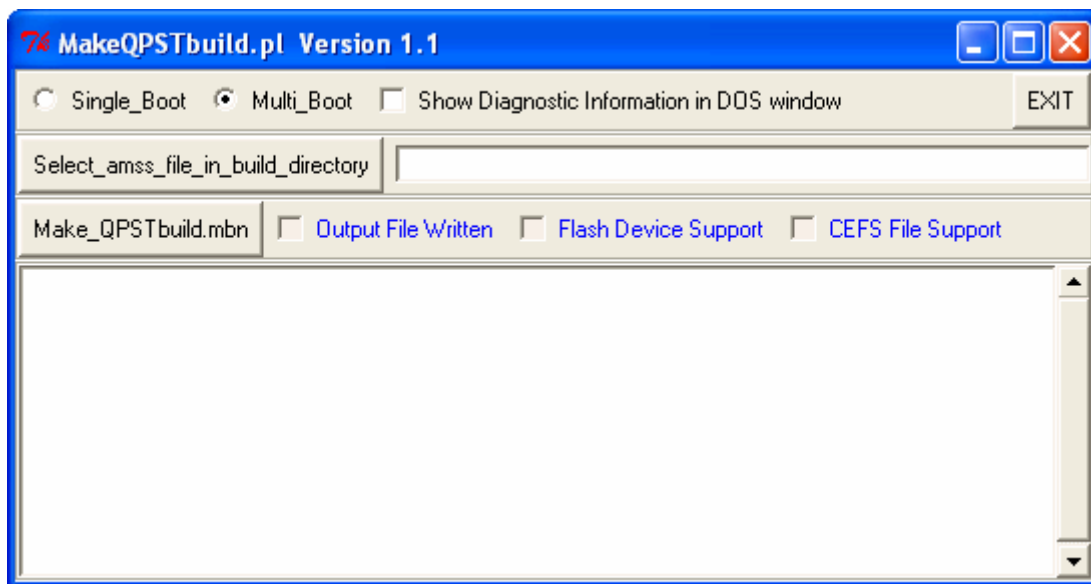

Figure 11-12 MakeQPSTbuild.pl dialog
5. Select the Single_Boot or Multi_Boot radio button (Figure 11-12).